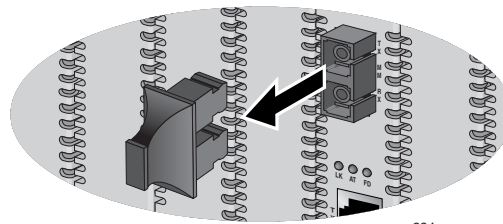

Figure 28. Removing the Dust Cover from a Dual SC Fiber Optic Port
1. Remove the dust cover from the fiber optic port, as shown in Figure 28.